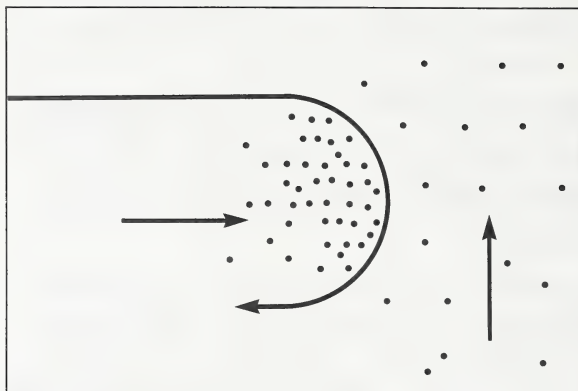

Figure 106. Typical uneven distribution obtained when applicator is not shut off when cornering.
- Parts of the boom travel at different speeds relative to the ground causing varying application rates through the entire width of the boom. In some cases, part of the boom stops or reverses (figure 106) for an instant, which may cause the crop to be burned.